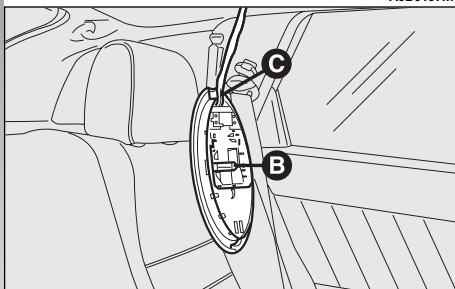

fig. 58
- Remove the bulb (**B-fig. 58**) pulling outwards and releasing it from the side contacts.
— Refit the roof light firstly inserting the side (**C-fig. 58**) and then pressing on the other side until the catch clicks into place.